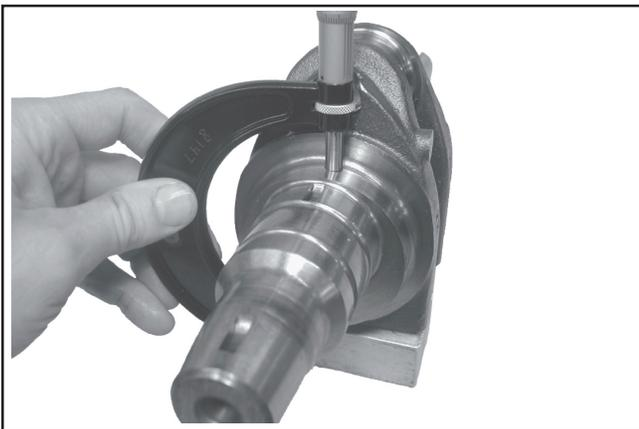

Figure 9-5. Measuring Crankshaft Eccentric.
2. Then use an outside micrometer and measure across each eccentric on the crankshaft. Again take two measurements 90° to each other. See Figure 9-5.